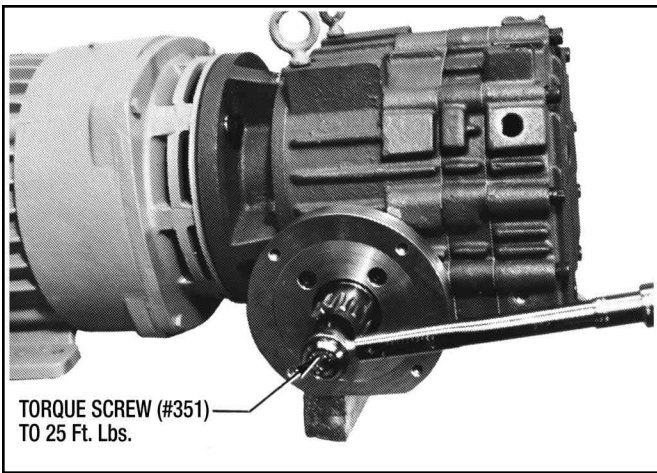

Figure 9.15 - Brake Hub Installation
2. Place the assembled Brake Hub on the Worm Shaft and torque screw (#351) to 25 Lb. Ft. (See Figure 9.15)
1. Remove previously installed Screw (#351) from the Hub (#302) and apply **Loctite Thread Locker #271** to the screw threads. Reinstall Screw (#351) and Seal Washer (#334) back into Hub and torque to **25 Lb. Ft.** (See Figure 9.15)